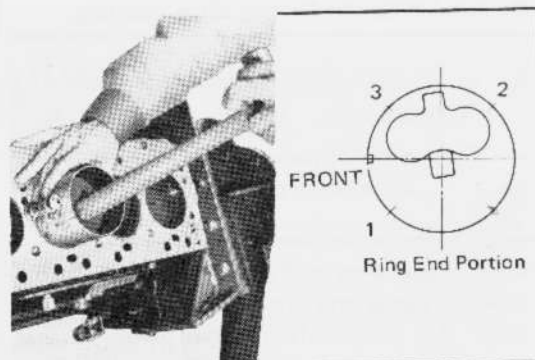

Fig. 2-110 Installing Piston
1. Position the piston ring ends as illustrated in Fig. 2-110.